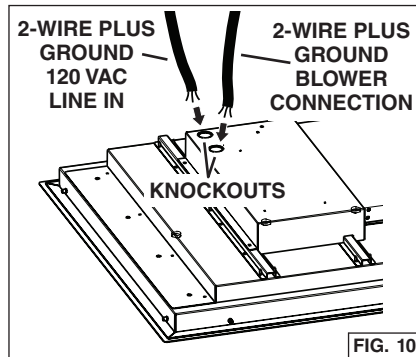

FIG. 10
1. Run 2-wire plus ground power cable to a $\frac{3}{4}$ " knockout located on the back of the hood. Fig. 10.
1. Run 2-wire plus ground, 120 VAC electrical power cable to a $\frac{3}{4}$ " knockout located on the back of the hood. Fig. 10.